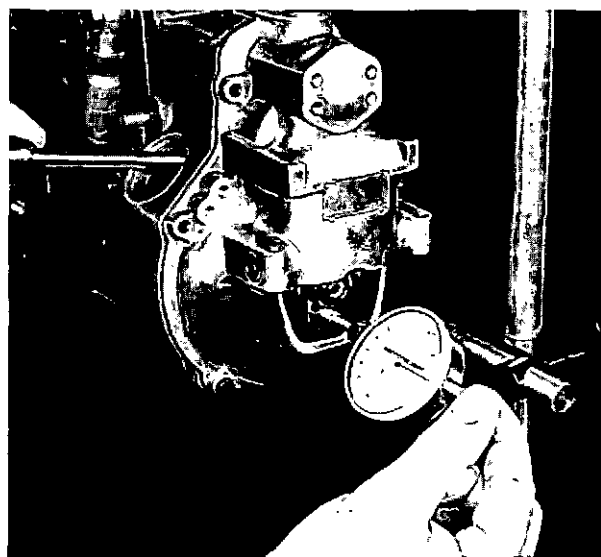

Fig. 59 Measuring sliding sleeve travel.
- (i) For protection, a cutaway rear cover should be fitted whilst this operation is carried out. Referring to fig. 59, mount the measuring rig 1 688 130 095 attaching